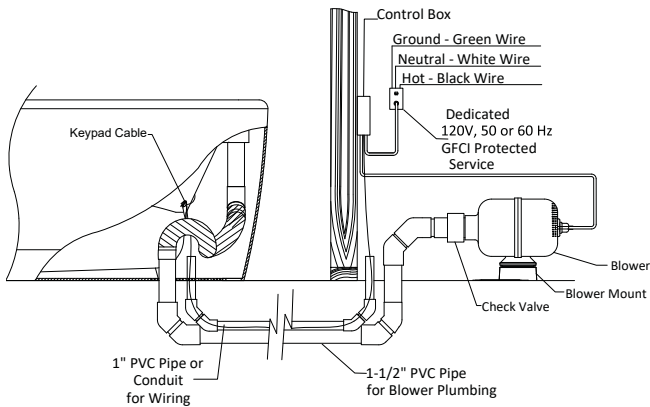

Figure 8 - Below Floor Installation
6. Extend piping stub-out through the floor as illustrated in **Figure 8**. Piping between the remote blower location and the bath can be insulated using a minimum of 1/2" [13mm] thick insulation. Attach new piping to the elbow of the existing piping.